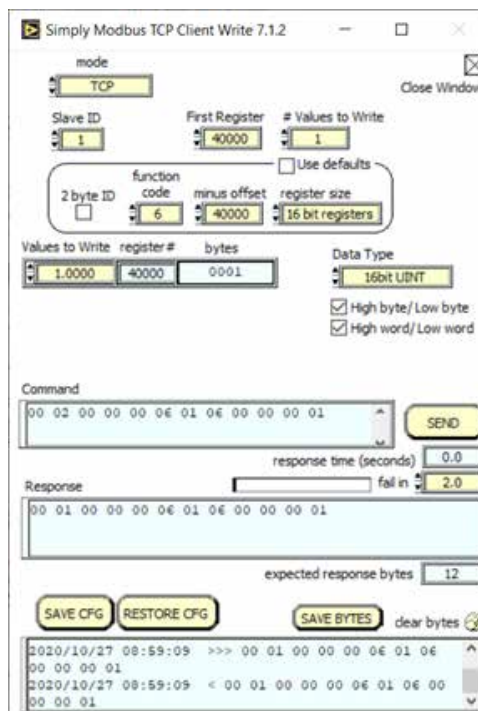

Figure 52.2.
- A new window will appear. See Figure 52.2. In this new window, make sure Mode is set to TCP.